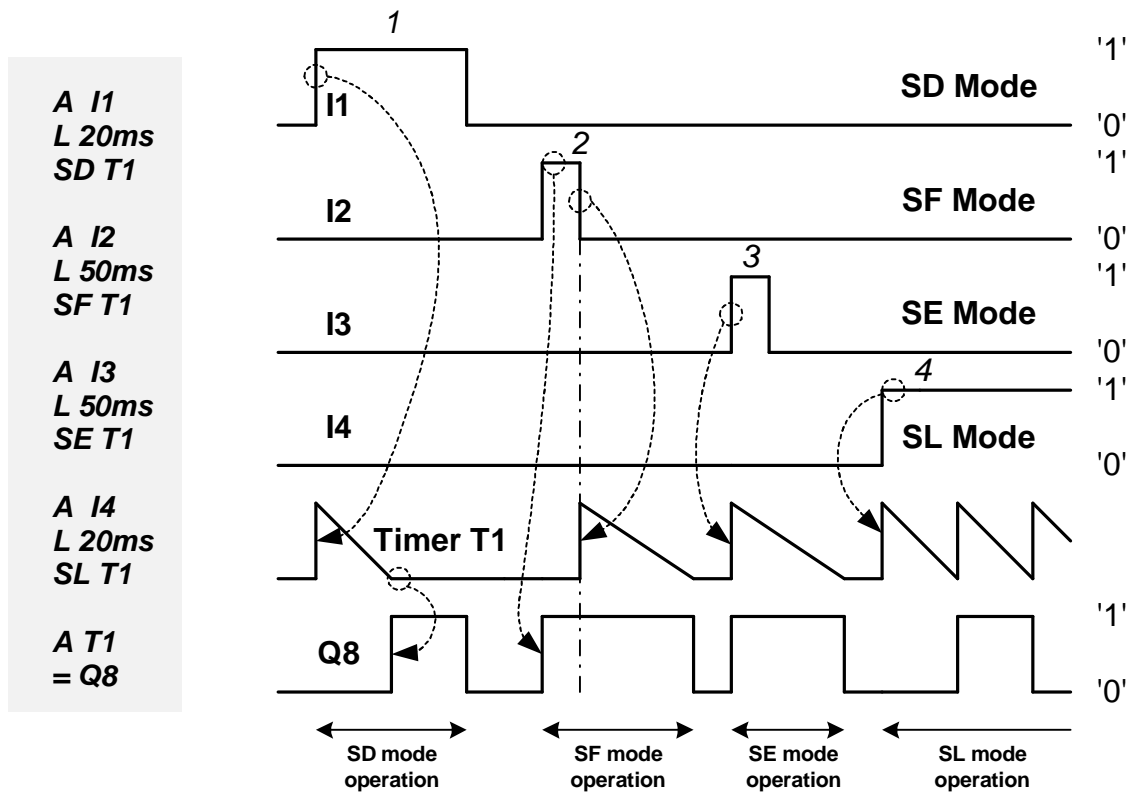

Fig. 5.1.2.17.5. Sample signal time series illustrating multiple use of T1 Timer.
If high state occurs at I4 input then the T1 Timer will be triggered in SL mode, with the time of 20 ms (4). Figure 5.1.2.17.5. illustrates sample time series at I1, I2, I3, I4 and Q8.